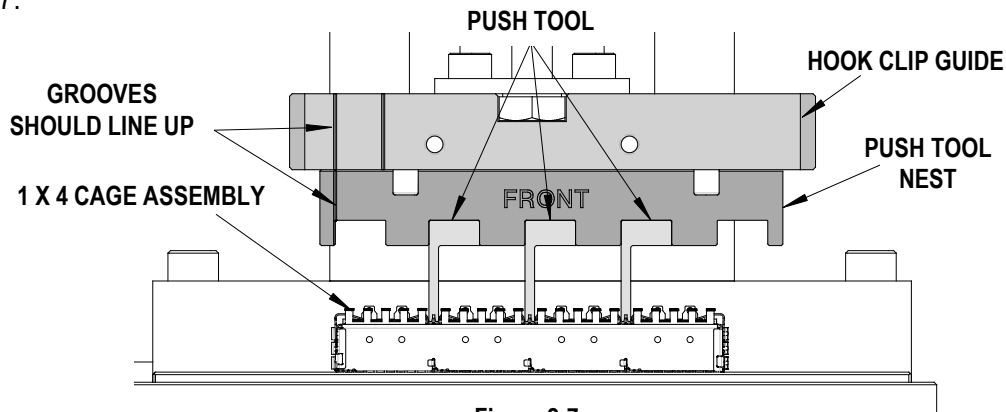

Figure 2-7
4. There is a vertical groove on the Hook Clip Guide and the Push Tool Nest that should be aligned. See Figure 2-7.